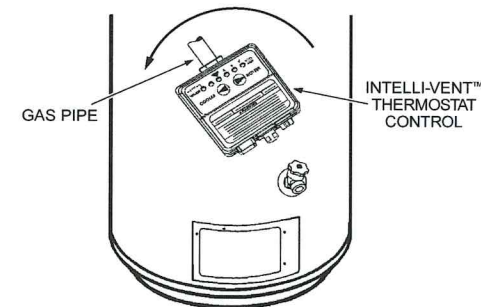

FIGURE 7.
10. Using your hand, grasp the straight pipe attached to the Intelli-vent™ Thermostat Control, (183760 Series) and rotate it counter-clockwise until the valve is fully disconnected from the water heater, see Figure 7.
11. Hand start threading the Intelli-vent™ Thermostat Control, (184960 Series) into the water heater by rotating it clockwise. Continue to rotate the control until it is snug, see Figure 7.